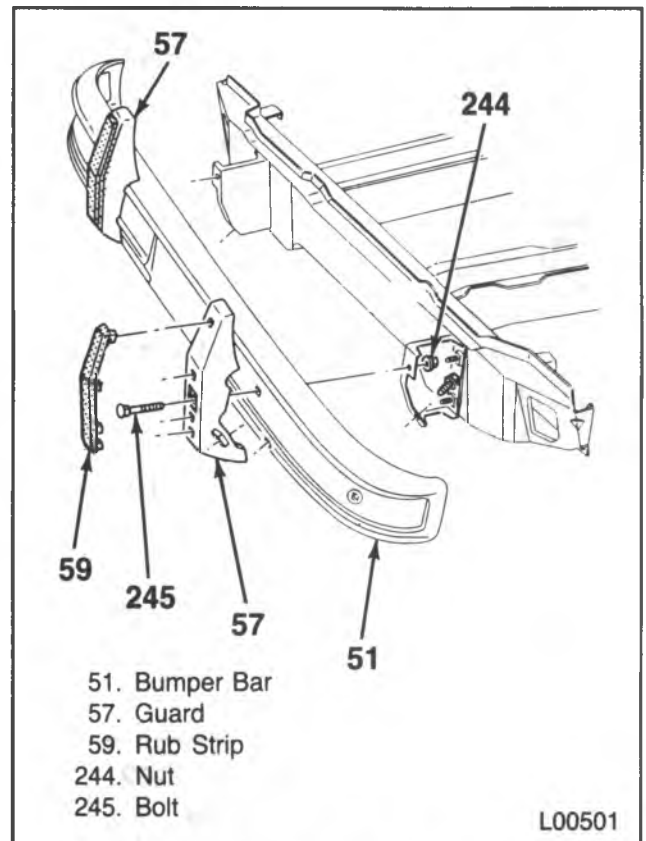

Figure 25 — G-Model Front Bumper Guards
1. Bracket to cross sill bolts (242).
2. Brace to bumper nuts (241) and bolts (243).
4. Bracket to bumper nuts (239), bolts (243), and guards (where used).
5. Brackets (55).
6. Rub strips from the guards (where used) (figure 25).
7. Brace to frame bolts (240).
8. Braces (54).